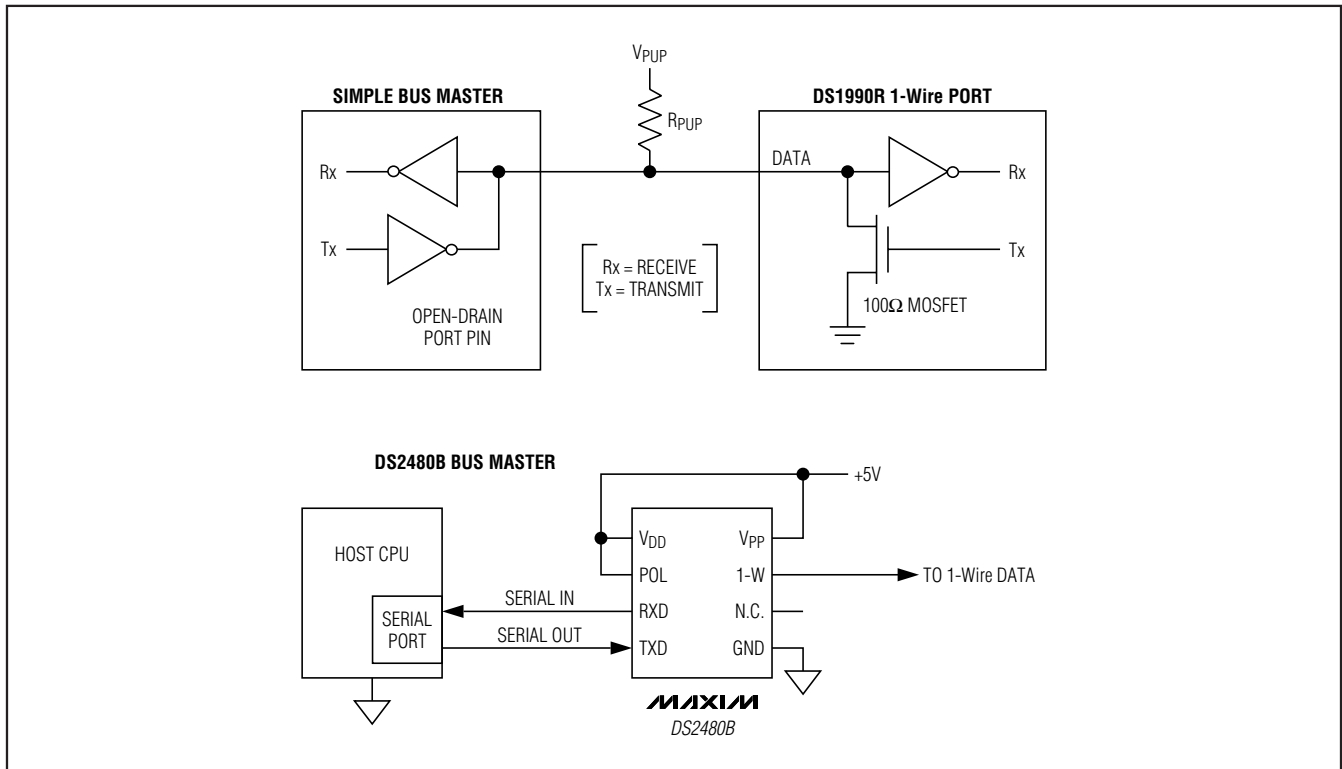

Figure 4. Hardware Configuration
**Note 2:** External pullup voltage. See Figure 4.
The 1-Wire bus has only a single line by definition; it is important that each device on the bus be able to drive it at the appropriate time. To facilitate this, each device attached to the 1-Wire bus must have open-drain or three-state outputs. The 1-Wire port of the DS1990R is open drain with an internal circuit equivalent to that shown in Figure 4. A multidrop bus consists of a 1-Wire bus with multiple slaves attached. At standard speed, the 1-Wire bus has a maximum data rate of 16.3kbps. The value of the pullup resistor primarily depends on the network size and load conditions. For most applications, the optimal value of the pullup resistor is approximately  $2.2k\Omega$ . The idle state for the 1-Wire bus is high. If for any reason a transaction needs to be suspended, the bus **must** be left in the idle state if the transaction is to resume. If this does not occur and the bus is left low